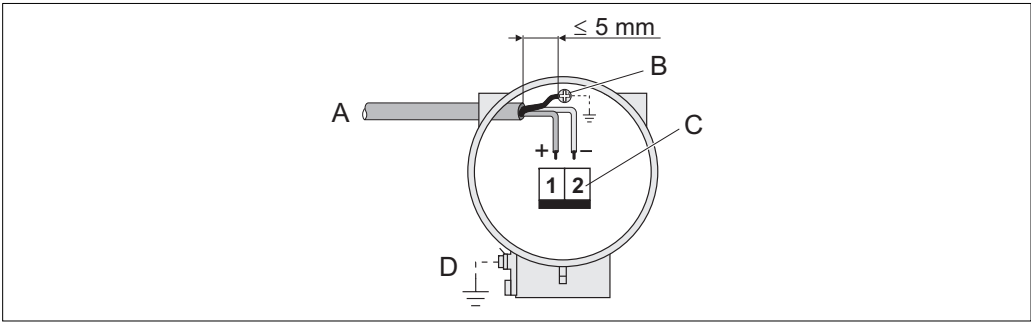

Fig. 15: Connecting the transmitter
6. Connect the PROFIBUS cable (see Fig. 15, A).
8. Secure the cable shielding to the ground terminal (g, see also Fig. 15, B).
Secure the ground cable to the ground terminal (Fig. 15, D).
5. Connect the PROFIBUS cable (see Fig. 15, A).
7. Secure the cable shielding to the ground terminal (e, see also Fig. 15, B).